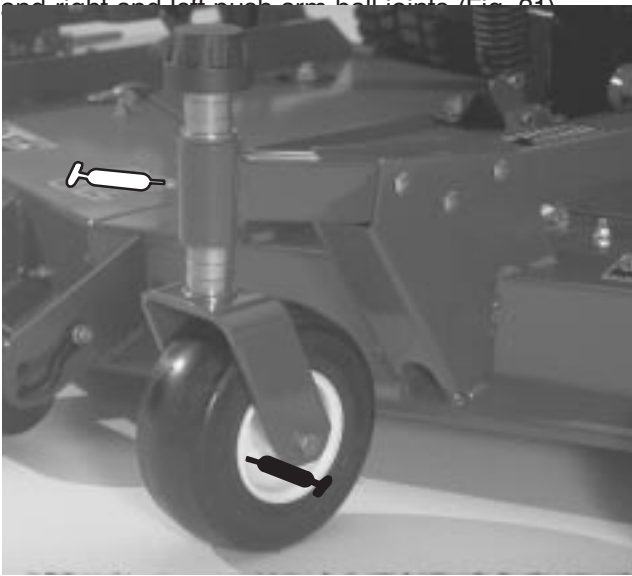
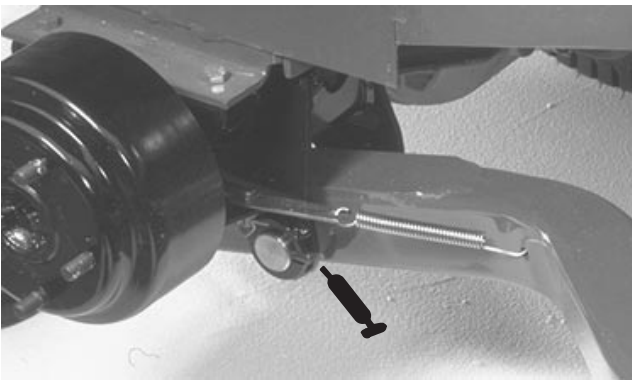
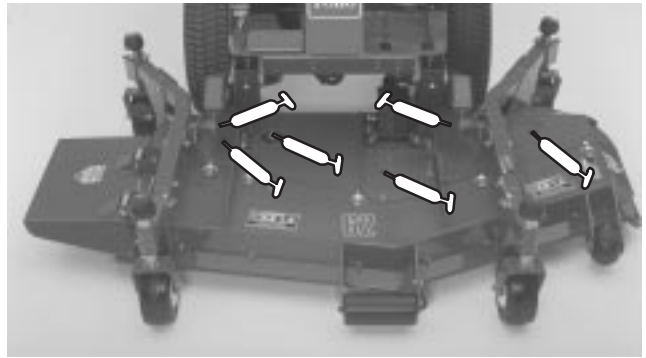

Figure 19
Figure 20
Figure 21
GREASE BEARINGS, BUSHINGS AND GEAR BOX (Fig. 19–22)
1. The cutting unit has bearings and bushings that must be lubricated, and these lubrication points are: front castor spindle bushings (Fig. 19); front and rear castor wheel bearings (Fig. 19); right and left lift arm pivot pins (Fig. 20); blade spindle bearings (Fig. 21); and right and left push arms ball joints (Fig. 21)